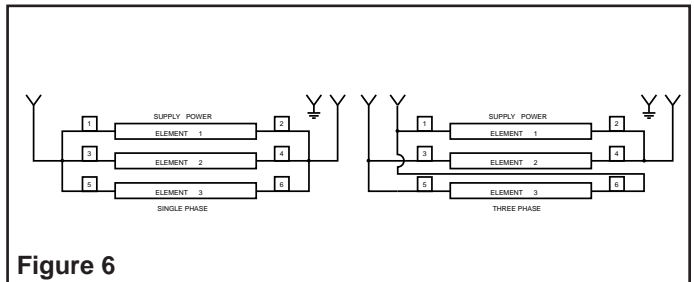

Figure 6
7. Proceed to wiring section (see Figure 6).
Refer to Figure 6 and proceed as follows.
1. Connect heater wiring to power supply wiring as shown in Figure 6.